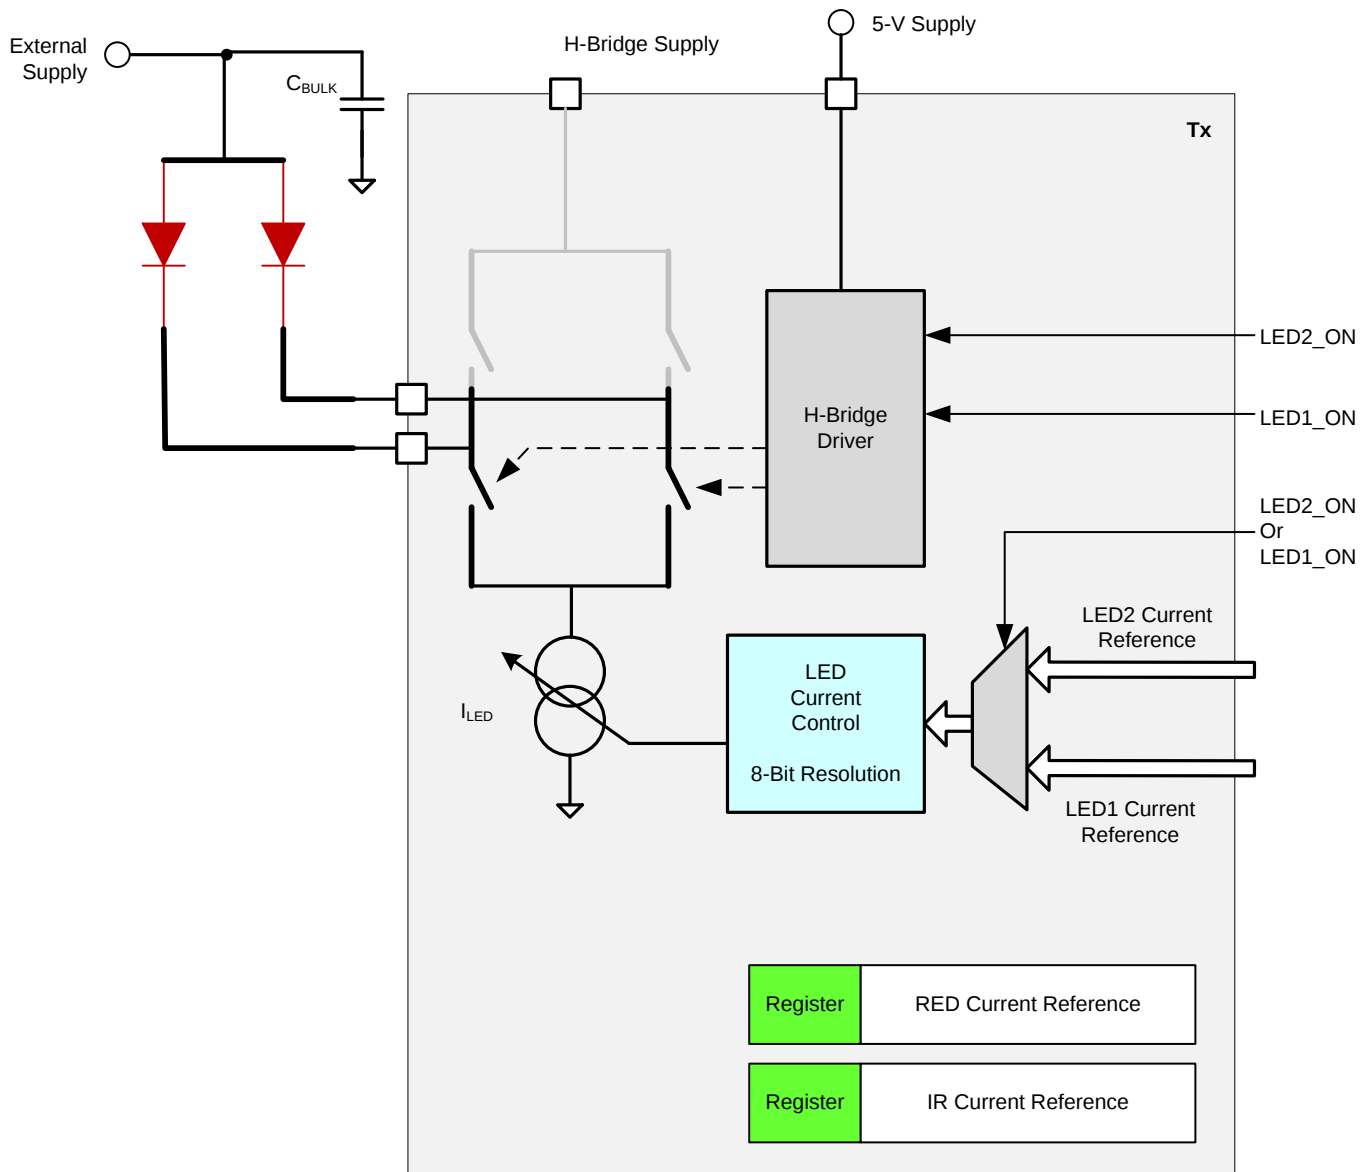

Figure 45. Transmit: Push-Pull LED Drive for Common Anode LED Configuration
- A push-pull drive for a three-terminal LED package; see Figure 45. The minimum external supply voltage = $2.0\text{ V} + (\text{maximum voltage drop across the LED})$. This value is the nominal value and depends on the registry LED current settings (refer to the LED_RANGE[1:0] bits in the LEDCNTRL register).